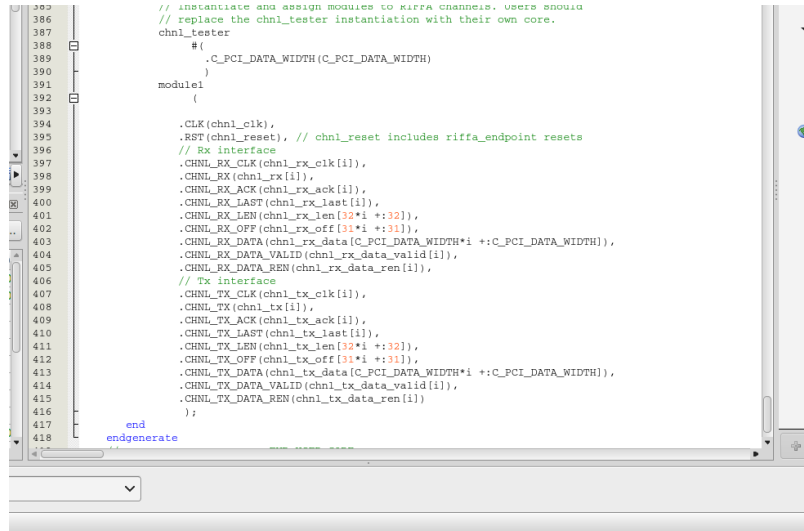

Figure 5.3: chnl\_tester instantiation in the top level file
6. The example design uses the *chnl\_tester* (shown in Figure 5.3, which works with the example software in the *source/{C-C++,Java,python,matlab}* directories. Replace the *chnl\_tester* instantiation with any user logic, matching the RIFFA interface.